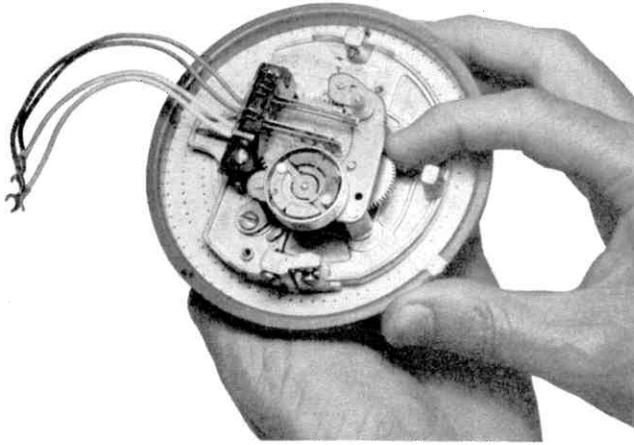

Fig. 26 — Holding Intermediate Gear Immobile
- (4) Grasp rim of fingerwheel with thumb and fingers. Rotate fingerwheel about 1 inch and hold in this position.
- (5) Hold intermediate gear immobile with index finger of other hand (Fig. 26).